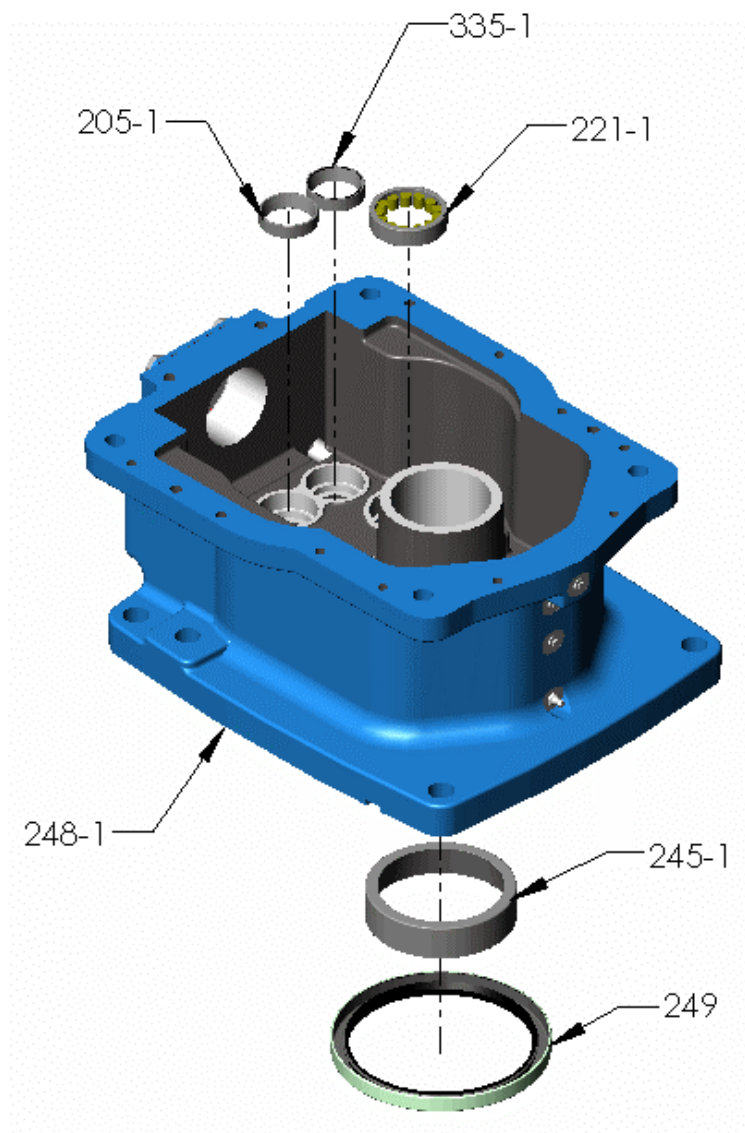

Figure 14 – Bottom Case
- (4) On assembly, lubricate all fasteners with grease, oil or an anti-seize material. Lubricate threads and contact surfaces of bolt heads and nuts. If fasteners cannot be lubricated, increase torque values given in Table 1 by a factor of 1.33.
- (5) Bearing cones are installed with interference fits, heat cones and press on to the shaft. Heat bearings in oven or oil bath:
- (6) Bearing cups are installed with interference fits, put the cups in dry ice to lower temperature and press into housing.
- (7) Install lip seals with the seal lip towards the bearing. Coat the seal lip with bearing grease before installing the shaft.
- B. At bottom case **[248-1]**, install following items (refer Figure 14):